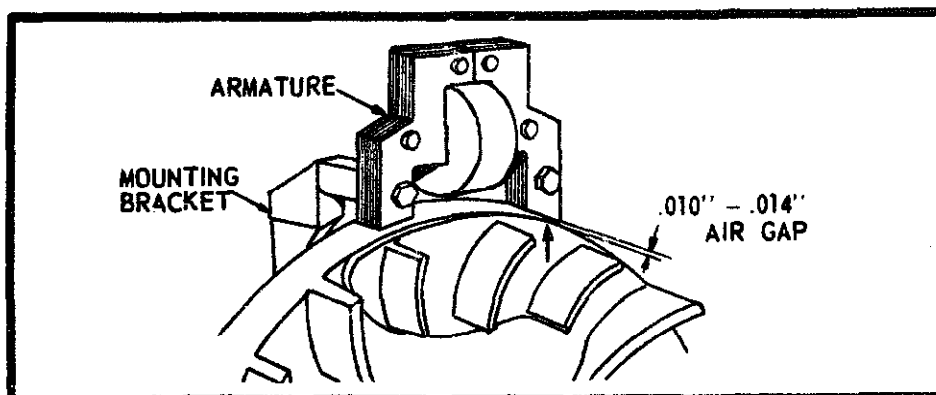

Fig. 2-14. Adjusting the armature air gap. (Courtesy Briggs & Stratton Corp.)
- Insert a 0.010–0.014 inch shim between the armature legs and flywheel rim (Fig. 2-14). Press the armature down lightly on the shim.